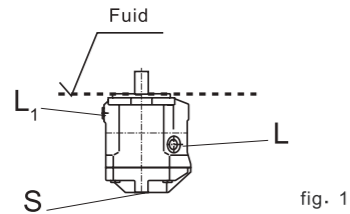

fig. 1
- a) When the minimum fluid level is the same as or is above the pump flange area then: ports L, L₁ and S are open (see fig. 1).